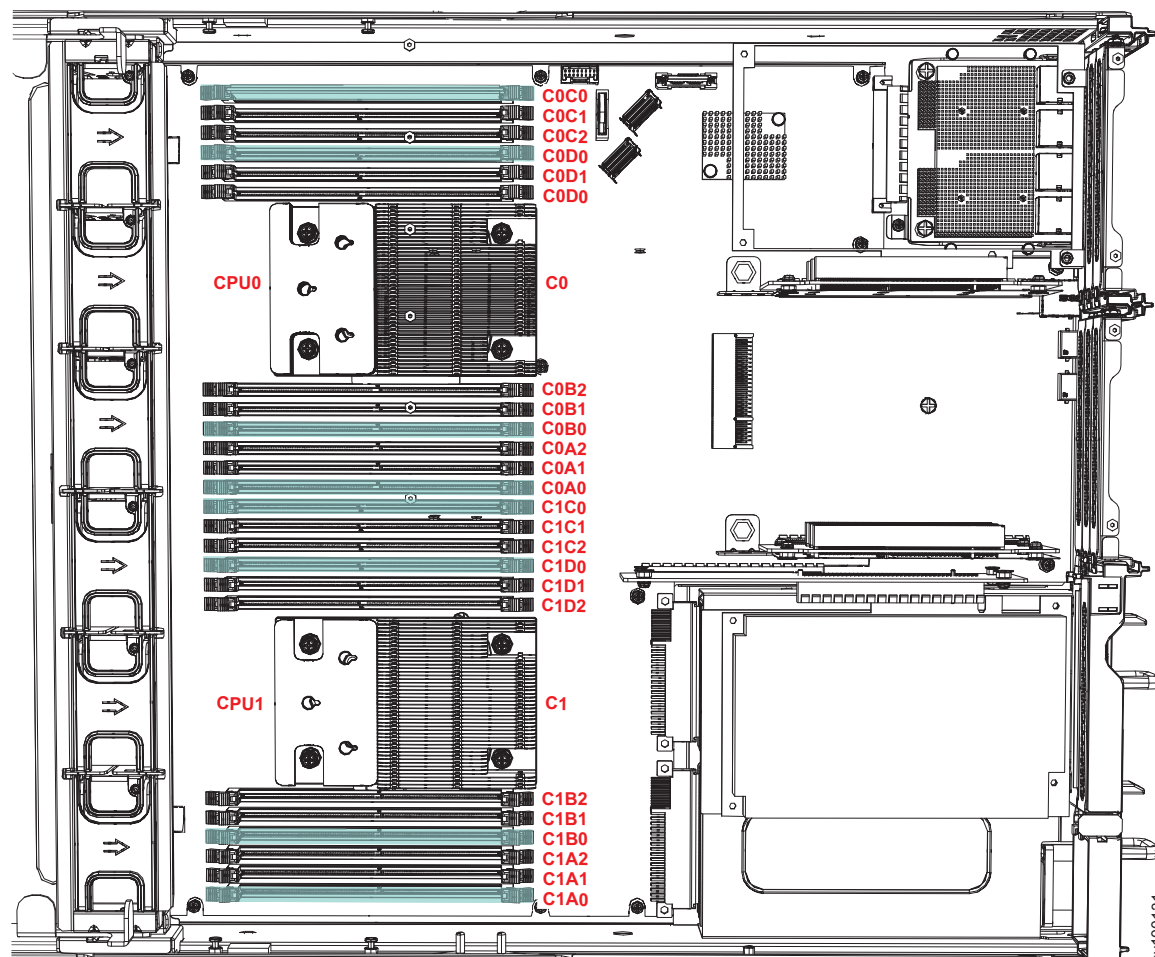

Figure 73. Locations of the DIMM connectors on the system board
- Refer to Figure 73 on page 90 to locate the dual inline memory module (DIMM) that you want to replace.